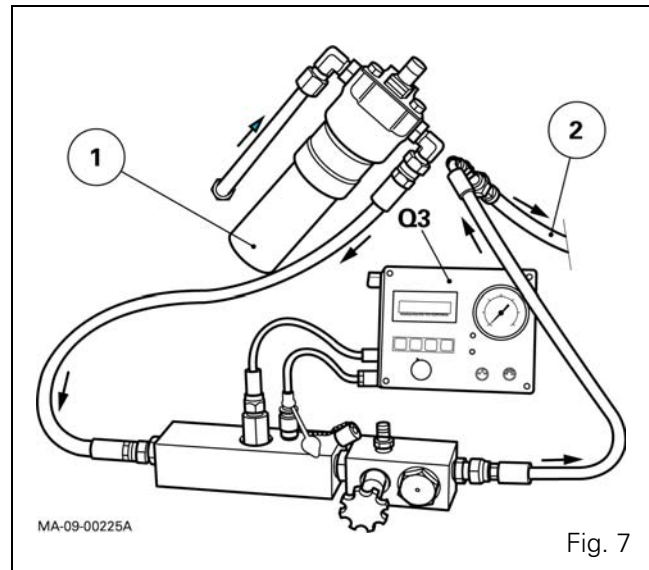

Fig. 7
- Connect a flowmeter between the 15 micron filter(s) (1) outlet located to the front right-hand side of the rear axle, and the supply pipe (2) to the Orbitrol spool valve (Fig. 7).